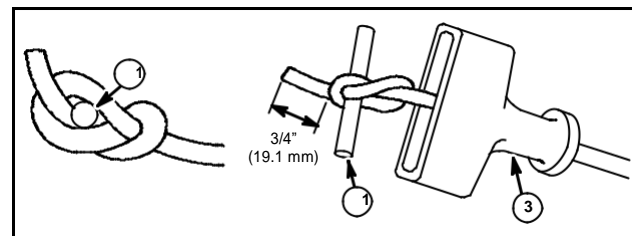

Fig. 14
3. Insert pin (1), Fig. 14, through knot and pull tightly into handle (3), Fig. 14. ALWAYS SEAL BOTH ENDS OF KNOT.